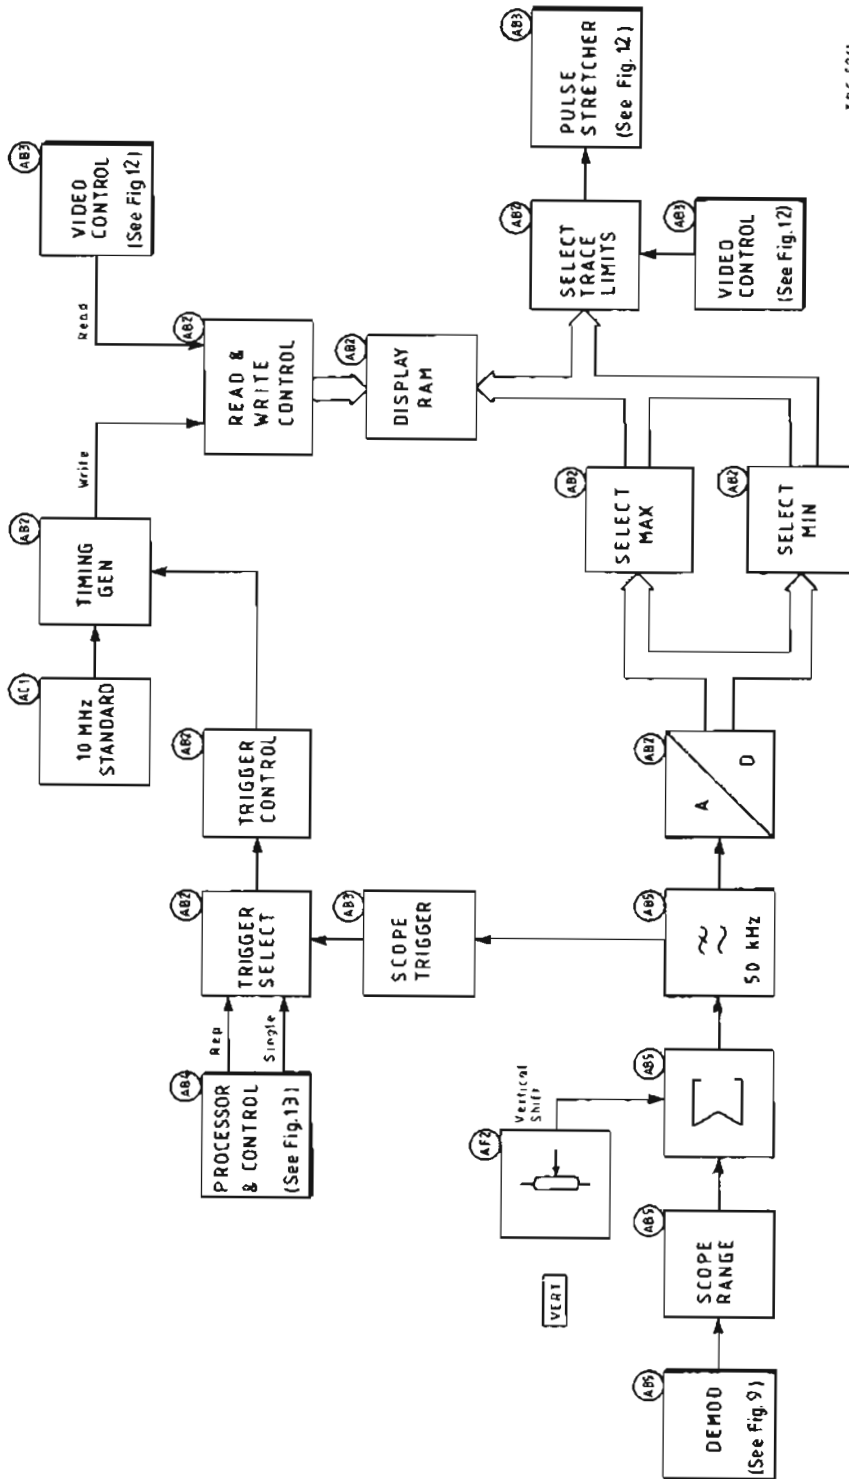

Fig. 10 Block diagram of oscilloscope (showing main functions of boards)
93. The input from AB5 to the oscilloscope is ranged and summed with the vertical shift control on AF2 (see Fig. 10). A 50 kHz low-pass filter feeds out to both the scope trigger on AB3 and the A-D converter on AB2. The selected single or repetitive trigger from AB4 is selected and used to gate in the AC1 10 MHz standard providing the clock for the write address counters. For the read address counters the clock is provided by v.d.u. board AB3. These addresses are used to access the display RAM. The data held in RAM is from the max. and min. data selectors from which the vertical trace is selected at the line rate for output to the pulse stretcher on AB3.